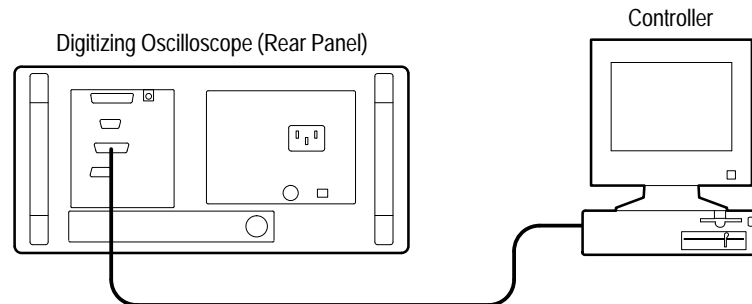

Figure 3–42: Connecting the Digitizing Oscilloscope to a Controller
**Connect the Oscilloscope to the GPIB.** To connect the oscilloscope, plug an IEEE Std 488.2-1987 GPIB cable into the GPIB connector on the oscilloscope rear panel and into the GPIB port on your controller (see Figure 3–42).
Press **SHIFT UTILITY** → **System** (main) → **I/O** (pop-up) → **Port** (main) → **GPIB** (pop-up) → **Configure** (main) → **Talk/Listen Address**, **Hardcopy (Talk Only)**, or **Off Bus** (side). (See Figure 3–43.)
There are four roll modes (see Figure 3–44):